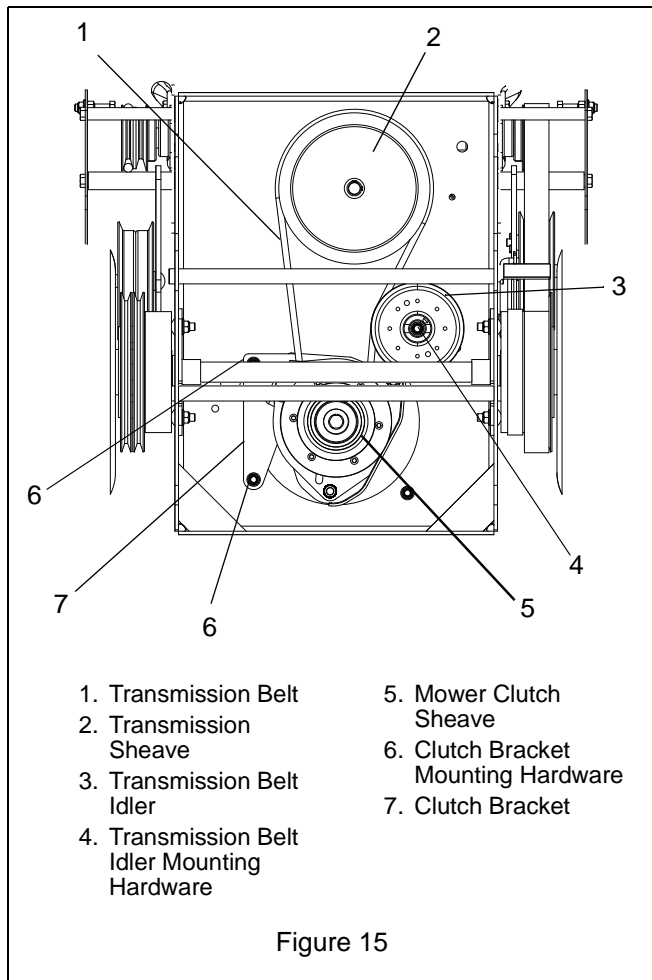

Figure 15
3. Loosen idler pulley mounting bolt and slide idler pulley away from the belt (Figure 15).
7. Slide idler pulley to the belt to tension it, and then tighten the mounting bolt to hold the position. (Figure 15).